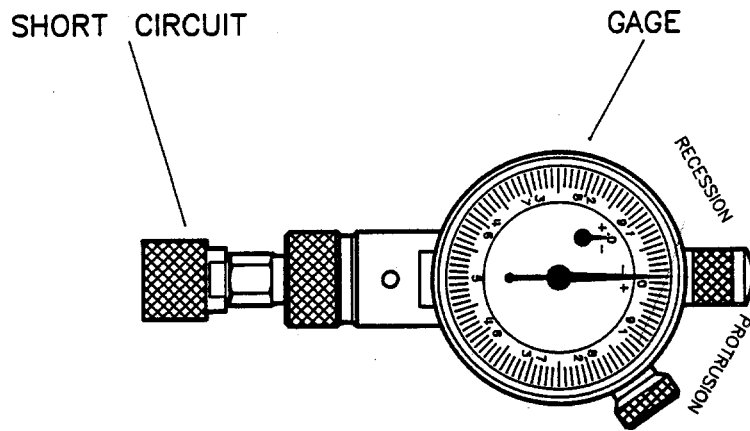

Figure 4-9. Gaging the Short Circuit
8. Mate the gage to the airline Figure 4-9.